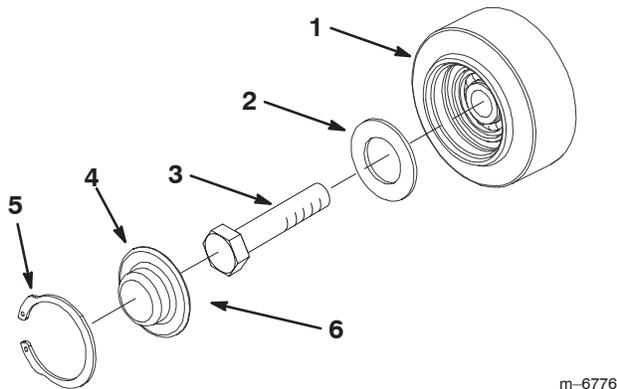

Figure 48
3. Remove the snap ring and cap from a road wheel (Fig. 48).
4. Check the grease under the cap and around the gasket (Fig. 48). If it is dirty, gritty, or depleted, clean out all of the grease, replace the gasket, and add new grease.
6. Place the greased road wheel cap over the bolt head (Fig. 48).
7. Secure the road wheel cap with the snap ring (Fig. 48).